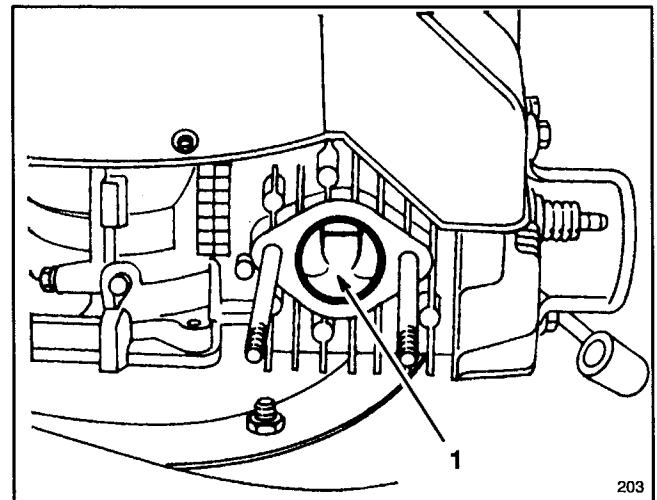

Figure 22
4. Slowly pull recoil starter so piston covers exhaust port (Fig. 22).
5. Clean carbon from exhaust port (Fig. 22) with flat, hard wood scraper.
6. Reinstall muffler with screw, (2) nuts and lockwashers (Fig. 22). After cleaning exhaust port, make sure muffler gasket is still usable.